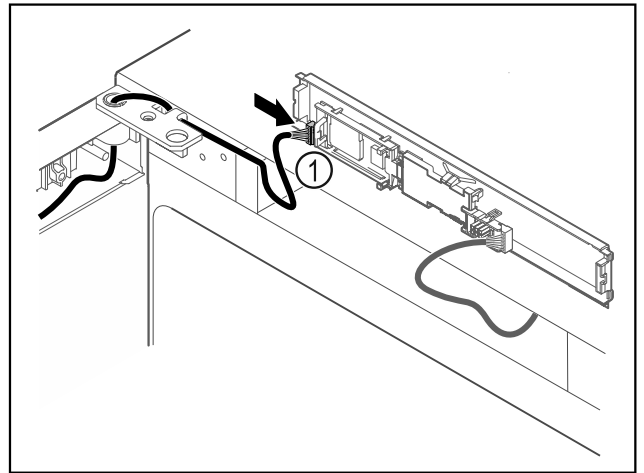

Fig. 65
- ▶ Connect the plug Fig. 65 (1) to the circuit board.